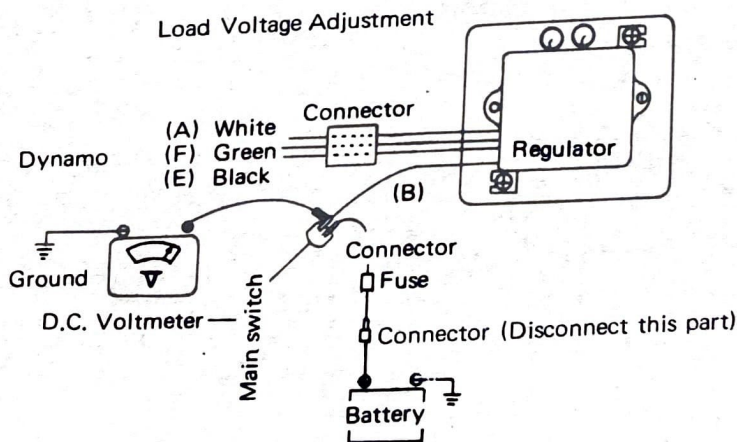

Fig. 6-6-1
- Hook up a tester (DC voltmeter or electrotester) as shown in Fig. 6-6-1.